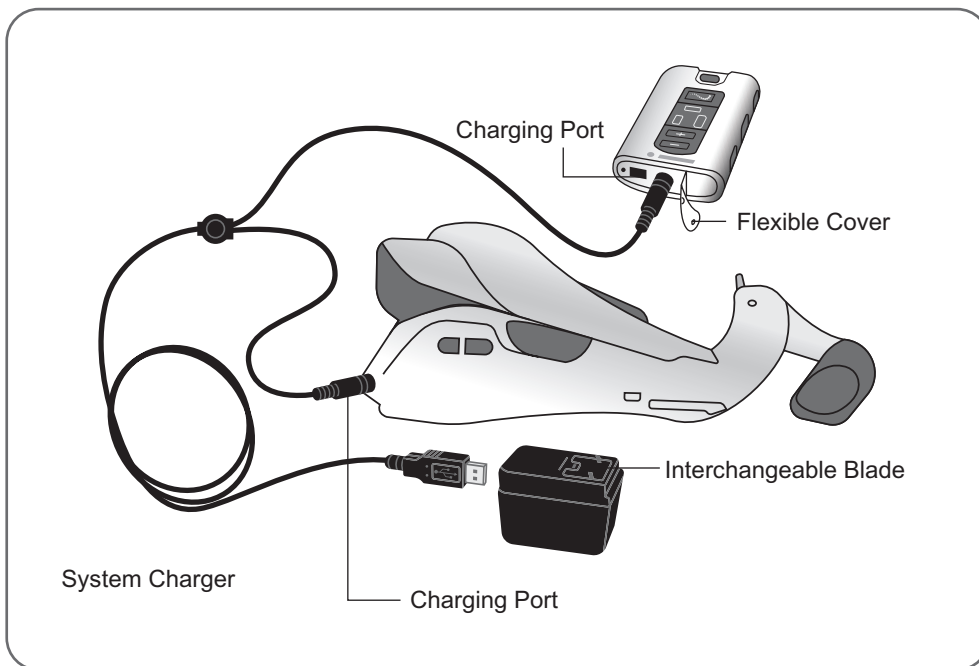

Figure 8-3: Charging Setup
3. Connect the System Charger to the charging ports of the Orthosis and Control Unit. The Control Unit charging port is under the flexible cover. See Figure 8-3.